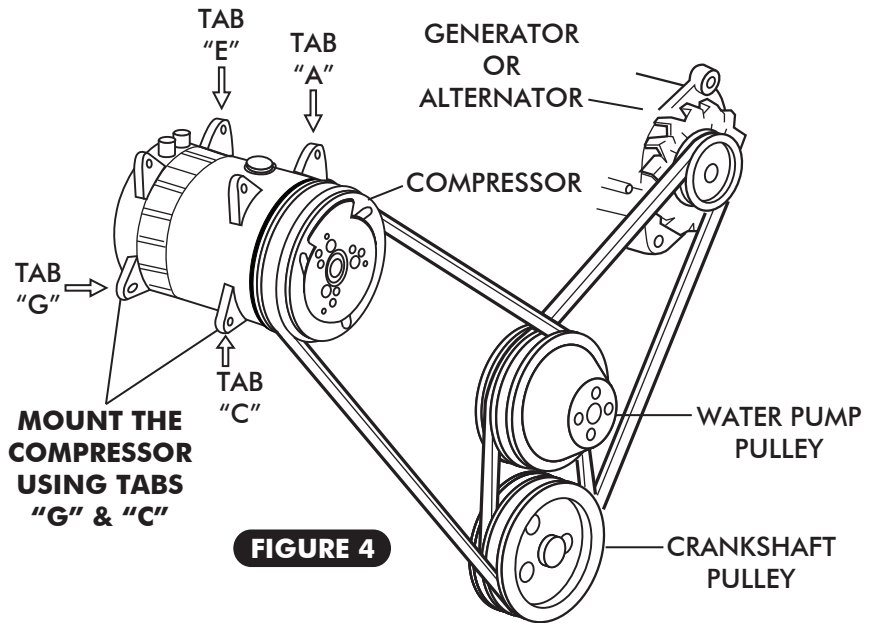

FIGURE 4
- REFER TO SEPARATE INSTRUCTIONS INCLUDED WITH THE BRACKET KIT TO INSTALL THE COMPRESSOR BRACKET. REFER TO FIGURE 4, BELOW, FOR COMPRESSOR MOUNTING POSITION.
- IN MOST INSTANCES, EXISTING BELT LENGTHS WILL REMAIN THE SAME. SEE FIGURE 4, BELOW.